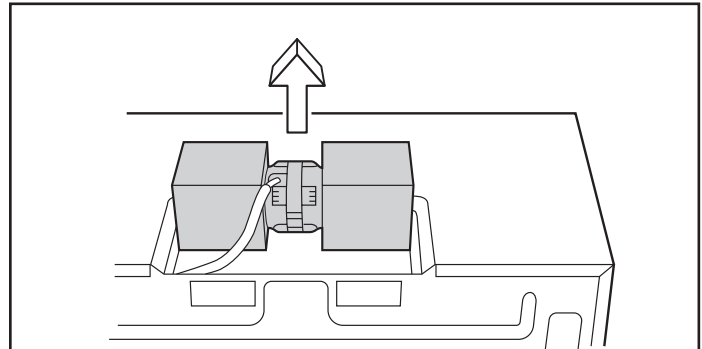

Figure 8
2. Lift Hood Fan Unit carefully and slip wires out of cavity. See Figure 8. Caution: Do not pull or stretch hood fan wiring.